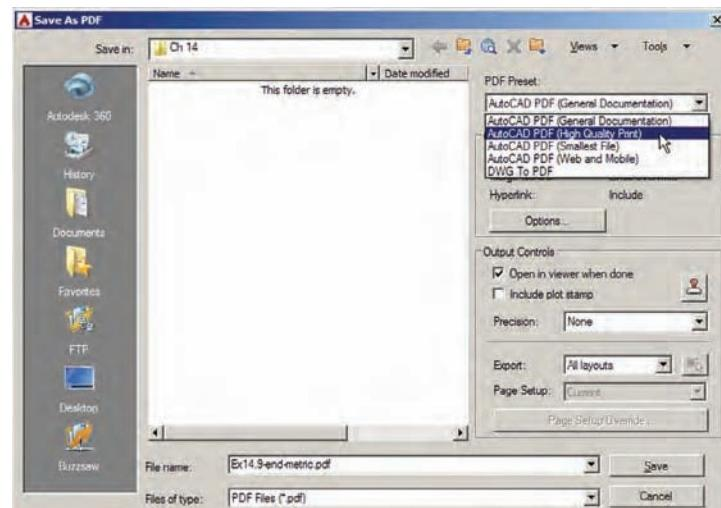

FIGURE 14.26 Choosing a PDF preset prior to saving
- Click the drop-down arrow under the Export icon. Select PDF from the menu that appears. Before saving the file, select AutoCAD PDF (High Quality Print) from the PDF Preset drop-down menu (see Figure 14.26). Verify that Open In Viewer When Done is selected in the Output Controls area.